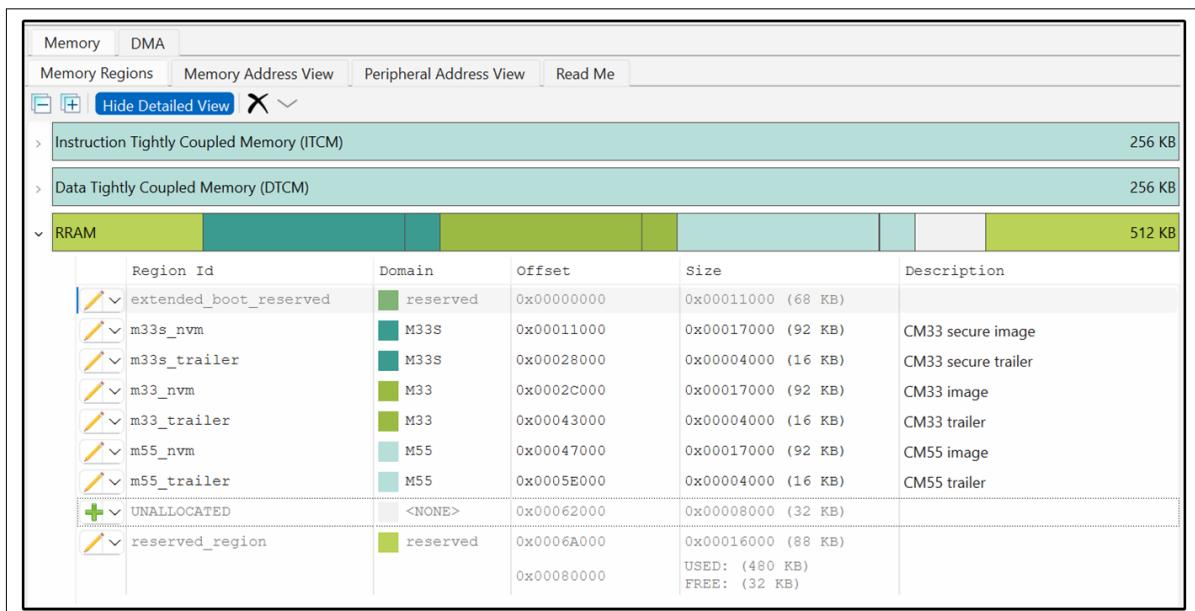

Figure 17 Final RRAM memory layout
5. For the CM33 non-secure and CM55 projects, we shall create the corresponding memory regions with offsets and region sizes in the RRAM section as shown in Figure 17